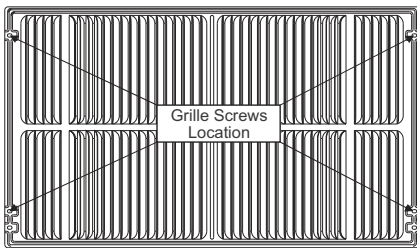
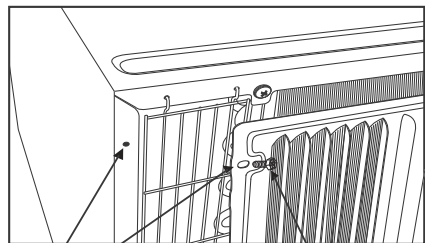

Fig. 2
Fig. 3
4. If the unit has not been predrilled (some models), carefully drill 4 - 1/8" holes through the grille and into the side flange of the unit approximately 1 1/2" to 2" from the top and bottom as in Fig. 2 & Fig. 3. (Be careful not to drill into the copper heat exchanger coil)